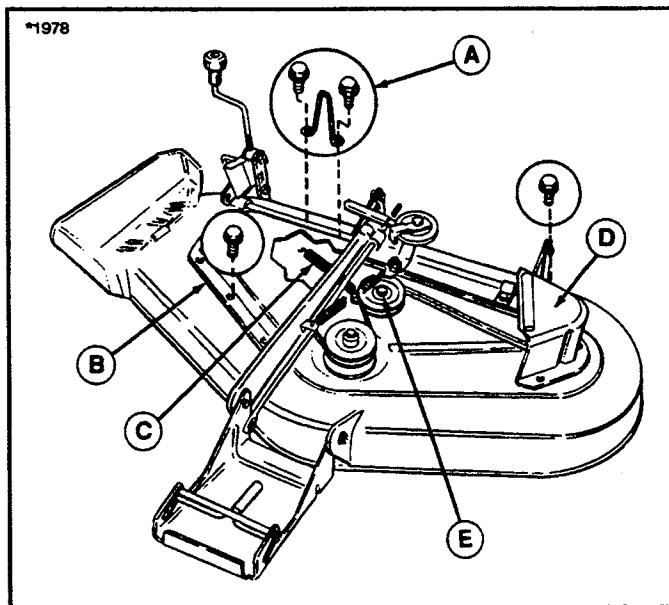
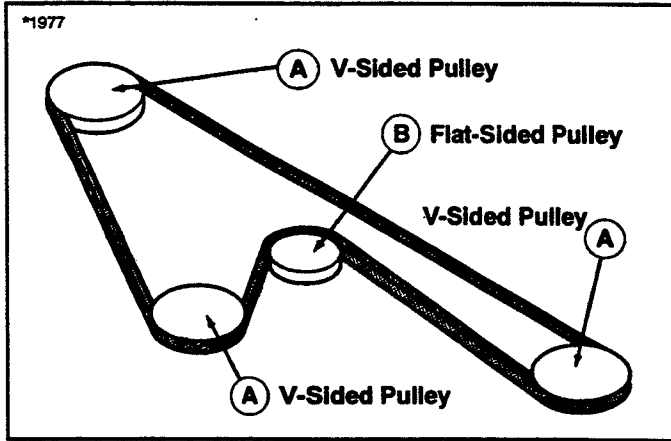

Figure 45. Mower Deck - 44"
Figure 46.
4. Loosen nut and lockwasher securing bracket belt stop (C) on idler pulley. Remove three capscrews securing left-hand arbor cover (D, figure 45).
3. See figure 45. Remove the two capscrews securing upstop (A) and remove the upstop.
4. Remove four additional capscrews securing right-hand arbor cover (B). Remove three capscrews securing left-hand arbor cover (D).
5. Using a vise-grip or pliers, remove idler pulley spring (C) from slot in deck.
6. Loosen capscrew (E) securing idler pulley to bracket. Belt can be slipped between pulley and idler bracket hub.
7. Install new belt as shown in figure 46. Make sure that V-side of belt runs in arbor pulley grooves and flat side of belt runs against idler pulley.
8. Install spring (C, figure 45) to slot in mower deck. Tighten capscrew securing idler pulley.